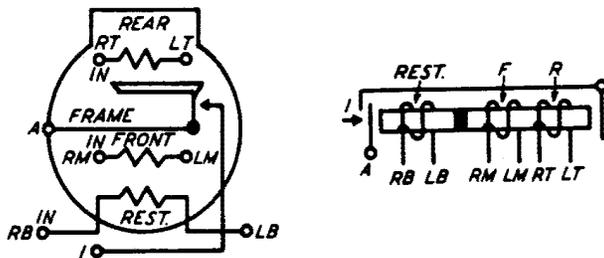

Fig. 24 – Winding and Spring Terminal Arrangement as Viewed From the Rear (terminal side) — 44-Type Relay
2.38 The armature (frame terminal) is designated A and the front contact is designated 1. The winding terminals are designated as shown in Fig. 24.